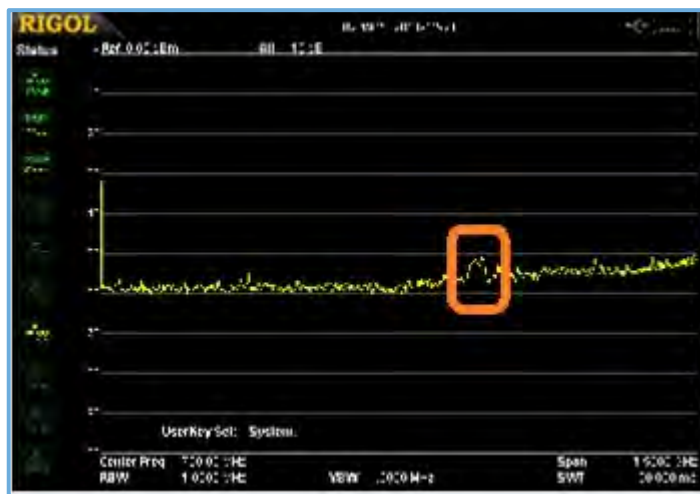

Figure 4-3: A bandpass filter trace.
5. Enable the tracking generator. Note the small bump in **Figure 4-3**.